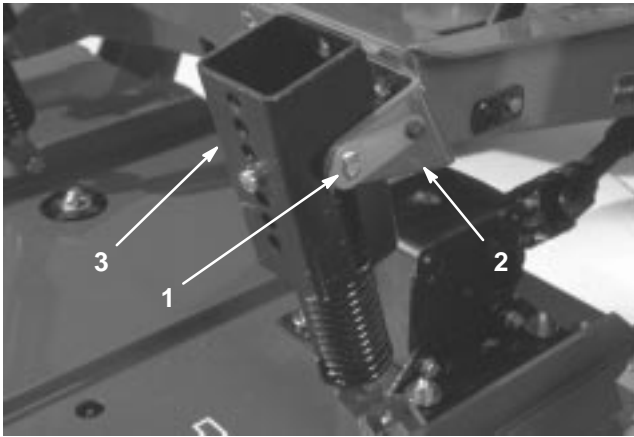

Figure 24
- Disconnect the counterbalance from the traction unit, remove the lock pins from the brackets, separate the spring tension assemblies from the brackets, and lay them down on the deck. Loosely secure the lock pins to the brackets to prevent losing them (Fig. 24).
7. Connect the counterbalance to the traction unit brackets with lock pins (Fig. 24).